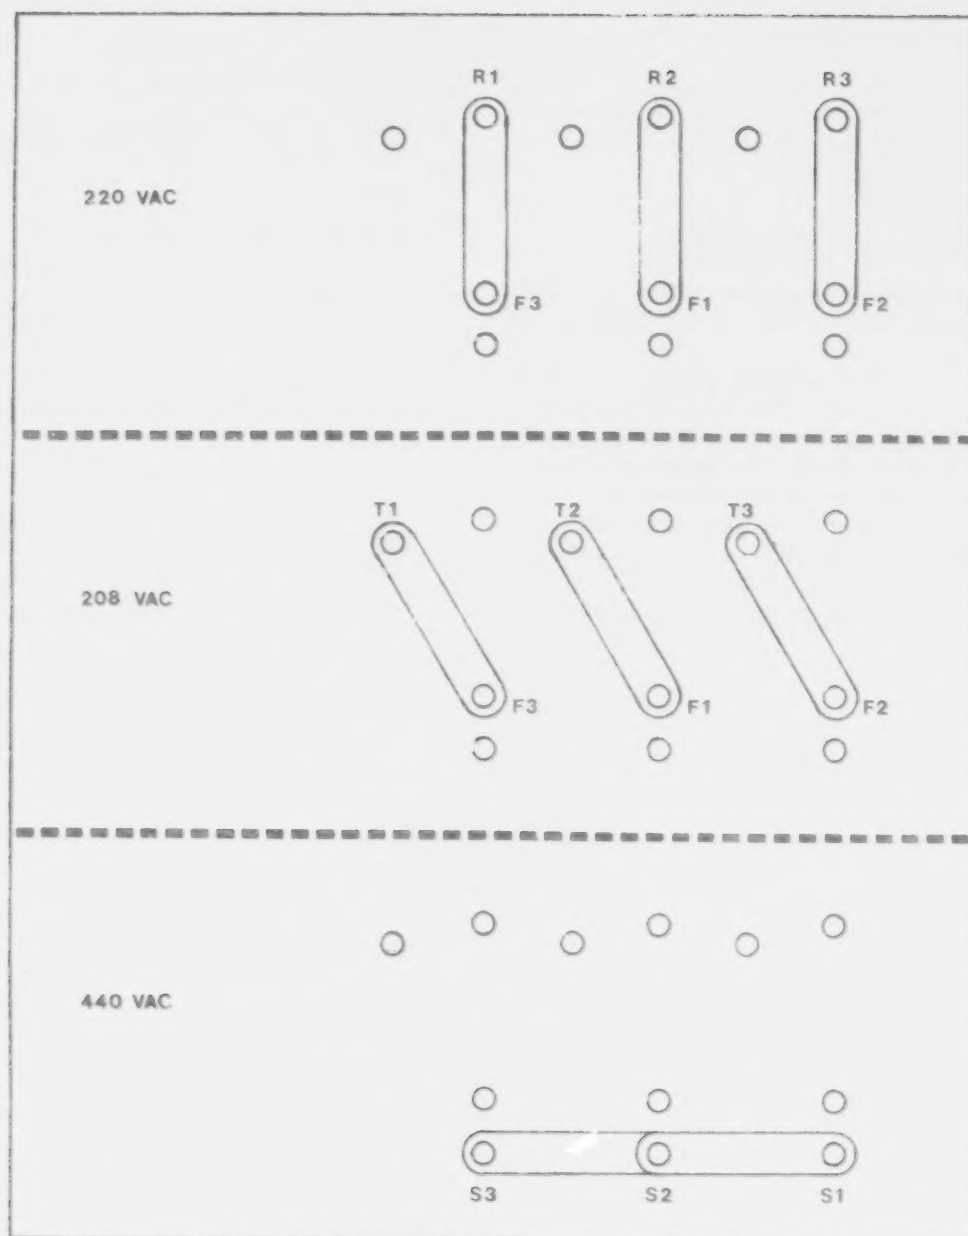

Figure 2-2. Transformer Terminal Board Jumpers EL6FX603
h. According to the power source voltage, connect the transformer terminal boards as shown in figure 2-2.